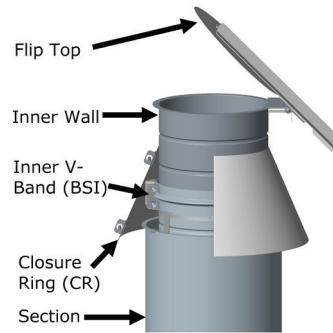

Figure 69 - Flip Top (FT) installed
the uppermost chimney pipe section with a inner V-Band (BSI) (See **Step 1 to 4 in the JOINT ASSEMBLY Section**). For Models DAS1, DIS1, DIS2 and DIS4, a Closure Ring (CR) is provided to protects the insulated space between standard pipe inner and outer. If a FT is installed on a horizontal termination, the hinged side of the top must be oriented at the top of the pipe keeping the counterweight up. The CR must be seal to the inner wall with outer Sealant **S-375**. See **Figure 69**